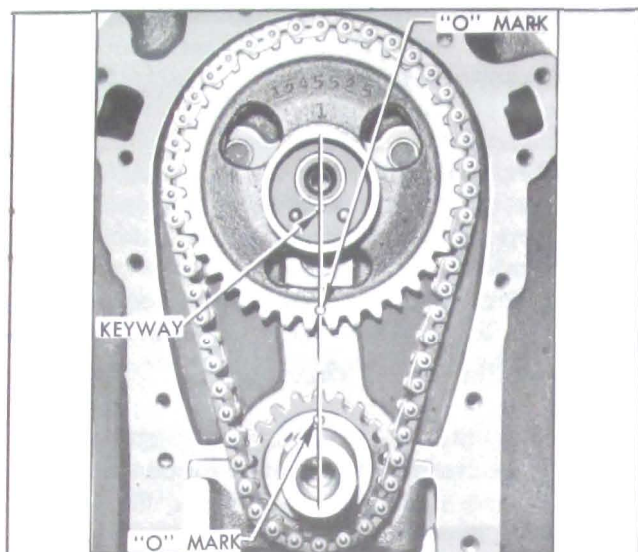

Figure 2-26—Timing Chain and Sprockets Properly Installed
4. If there has been doubt about the valve timing, turn crankshaft until the camshaft sprocket keyway is straight down toward the crankshaft and the "0" timing marks on both sprockets are toward each other and in line with shaft centers. See Figure 2-26.
7. When ready to install timing chain, turn crankshaft until Nos. 1 and 4 pistons are on top dead center. Turn camshaft so that the sprocket key points straight down toward crankshaft. See Figure 2-26.
8. Place timing chain over the camshaft and crankshaft sprockets so that the 'O' marks stamped on front faces of sprockets are nearest each other and aligned between the sprocket hubs. Install sprockets with chain on the two shafts. See Figure 2-26.